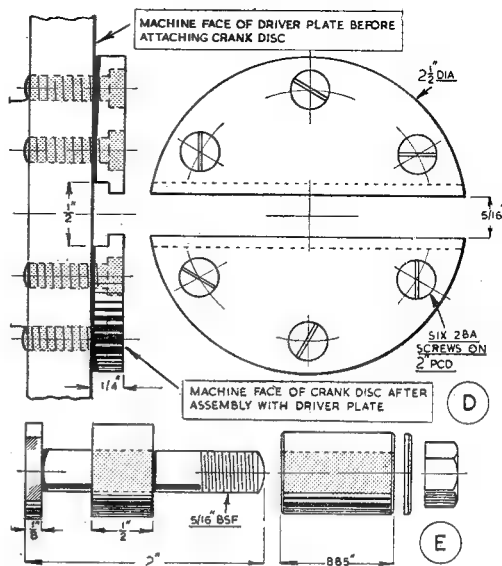

Fig. 6. Showing details of the driver plate ("D") and the crankpin assembly ("E")
#### The Driver Plate (D), Fig. 6
#### The Crankpin Assembly (E), Fig. 6